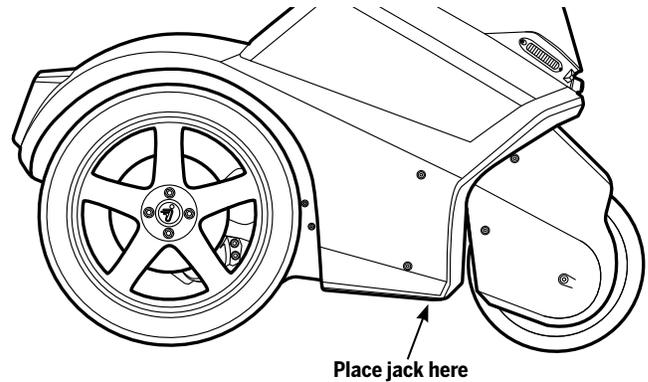

Figure 138: Front Lifting Point
3. Jack up the front of the SE-3 Patroller (Figure 138).
2. Jack up the front of the SE-3 Patroller (**Figure 138**).